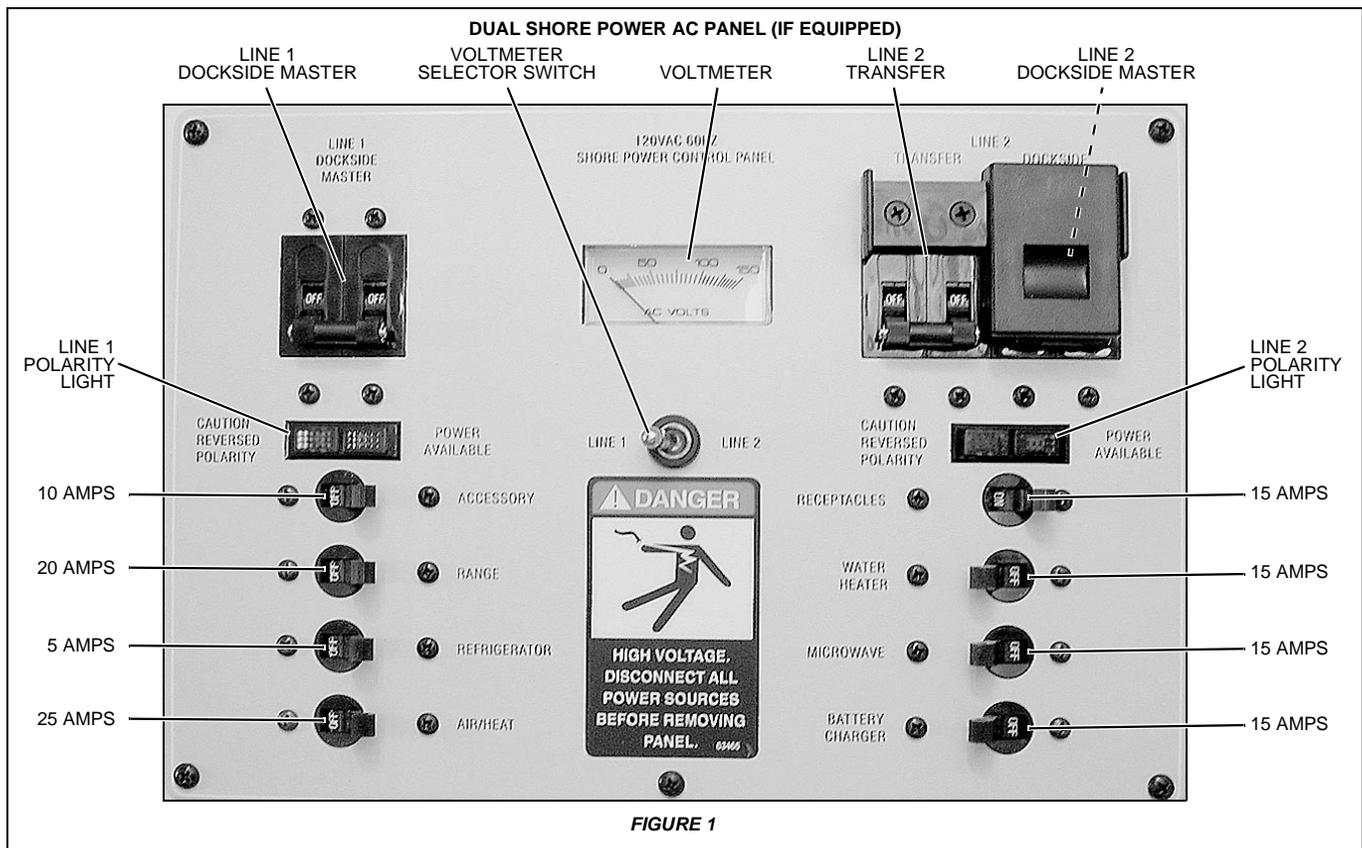

FIGURE 1
- The amperage of each component breaker is shown in figure 1.